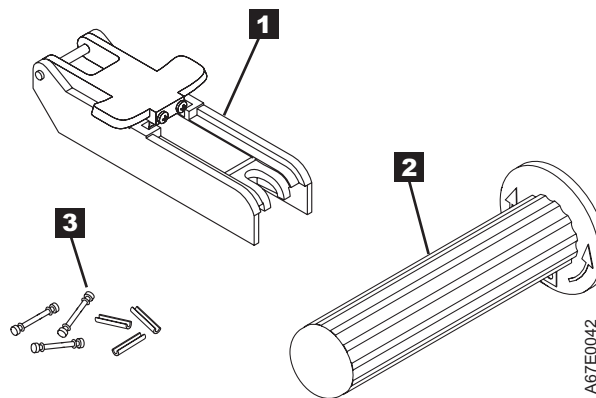

Figure 38. Leader Pin Reattachment Kit
- **Leader pin attach tool** (see **1** in Figure 38). A plastic brace that holds the cartridge door open.
- **Cartridge manual rewind tool** (see **2** in Figure 38). A device that fits into the cartridge's hub and lets you wind the tape into and out of the cartridge.
- **Pin supplies** (see **3** in Figure 38). Leader pins and C-clips.